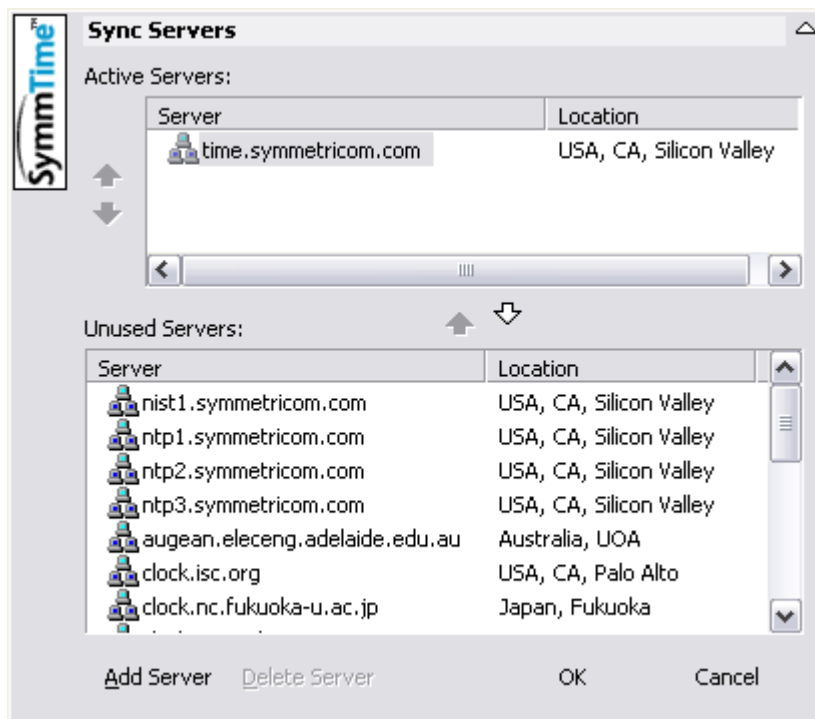

Figure 1-4. The Sync Server Window in SymmTime
2. Right-click anywhere in the SymmTime window and select **Sync Servers...** The Sync Servers window appears similar to the example shown in Figure 1-4.